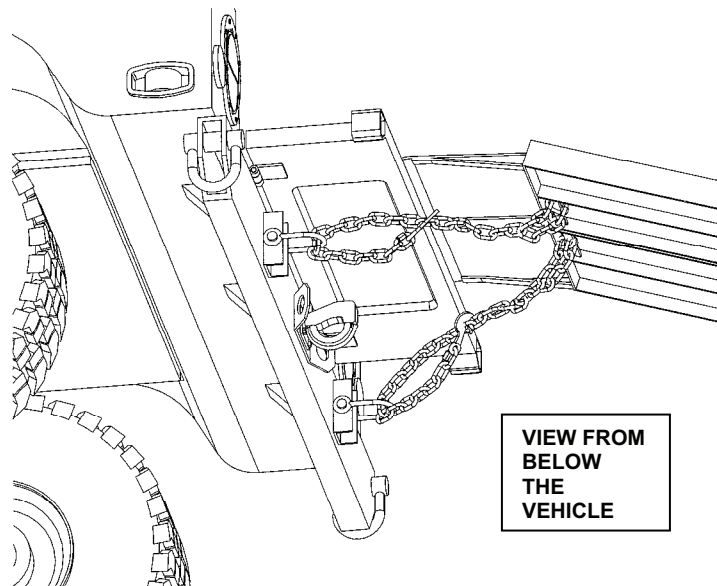

Figure 3. Securing Ramp to Vehicle.
5. Secure the ramp with chains and hooks in pintle chain bracket to prevent slipping during loading of the 3kW TQG set and modules. Make sure chains are tight and secure. See Figure 3.